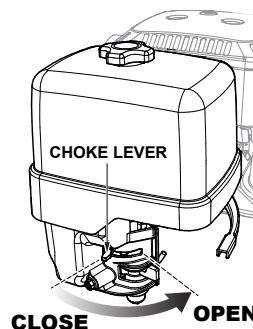

Figure 22. Engine Choke Lever (Open)
3. Place the choke lever (Figure 22) in the **OPEN** position if starting a warm engine or the temperature is warm.